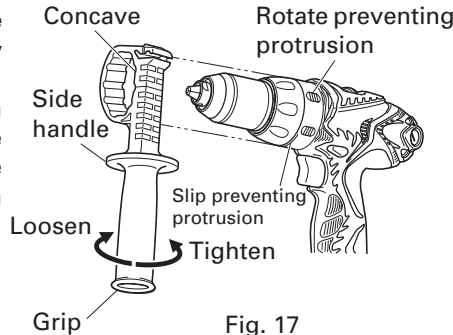

Fig. 17
(1) Install the side handle so that the protrusions on the main unit and grooves on the side handle interlock. Tighten the grip after checking that the side handle is not riding on the slip prevention protrusion. (Fig. 17)
(2) Loosen the grip to remove the side handle.